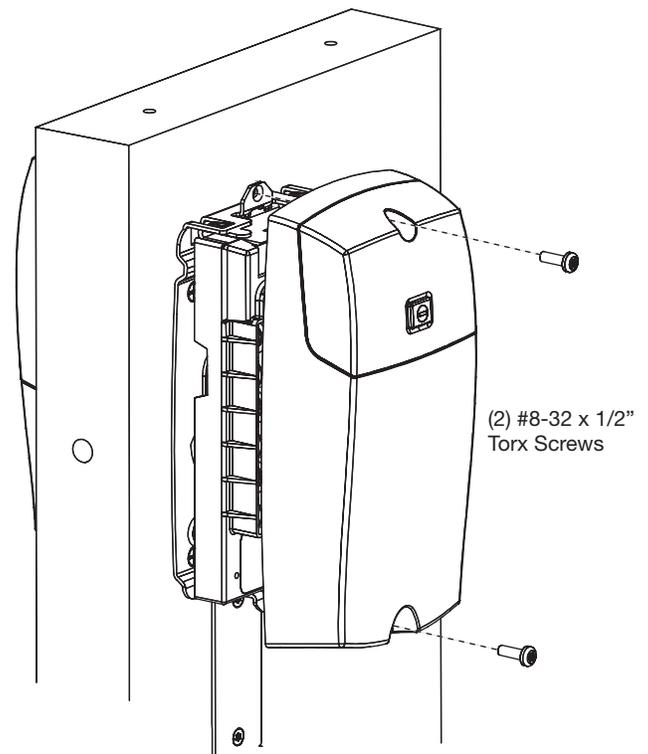

Fig. 14
- Position inside escutcheon as shown (Fig. 14).